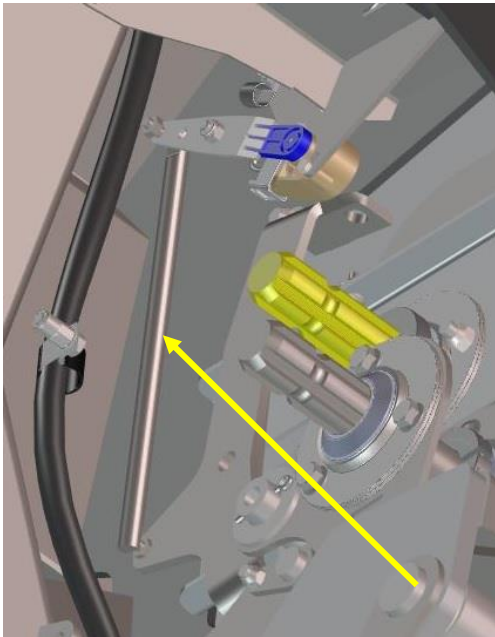

Figure 120
1. The Rigid sensor system has two potentiometers mounted on the side of the subframe. They are connected to the suspended frame by a rod See section 5.1 - for mechanical adjustments of the rigid sensors. Figure 120